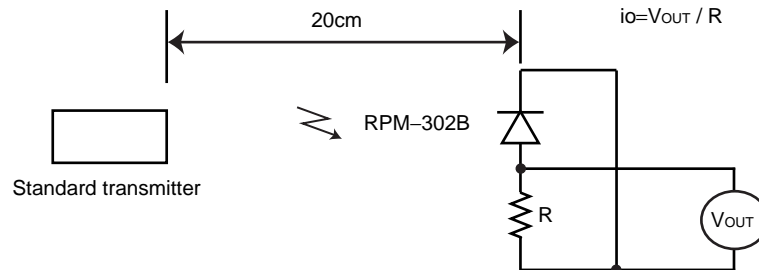

Fig.2 Measurement of standard transmitter proof reading.
*1 The burst wave form mentioned in Fig.1 is to be transmitted from standard transmitter(Fig.2)
When standard transmitter output the signal at Fig.1 standard photodiode output become $i_o=5\mu\text{A}_{\text{p-p}}$ under the measurement condition Fig.2.